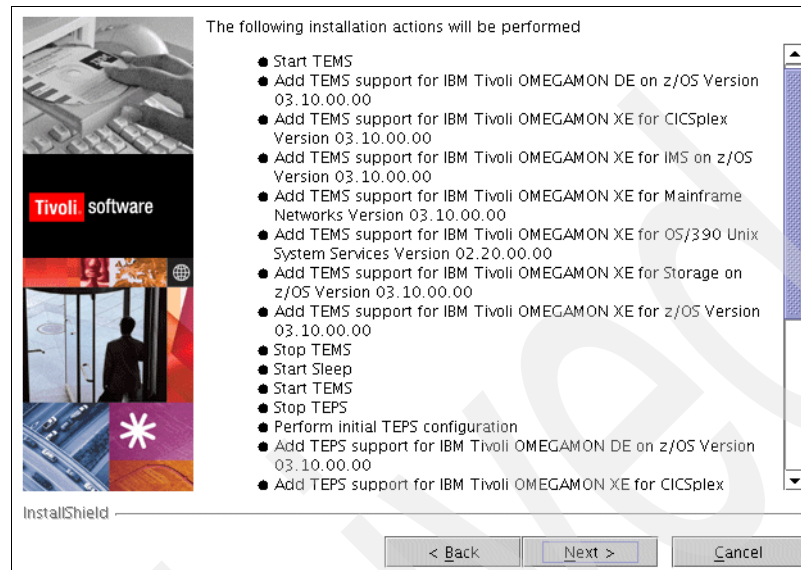

Figure 3-61 Installation step summary
5. If you select OMEGAMON DE, confirm that you have the license to run it. Otherwise, confirm the installation steps (Figure 3-61) and proceed.